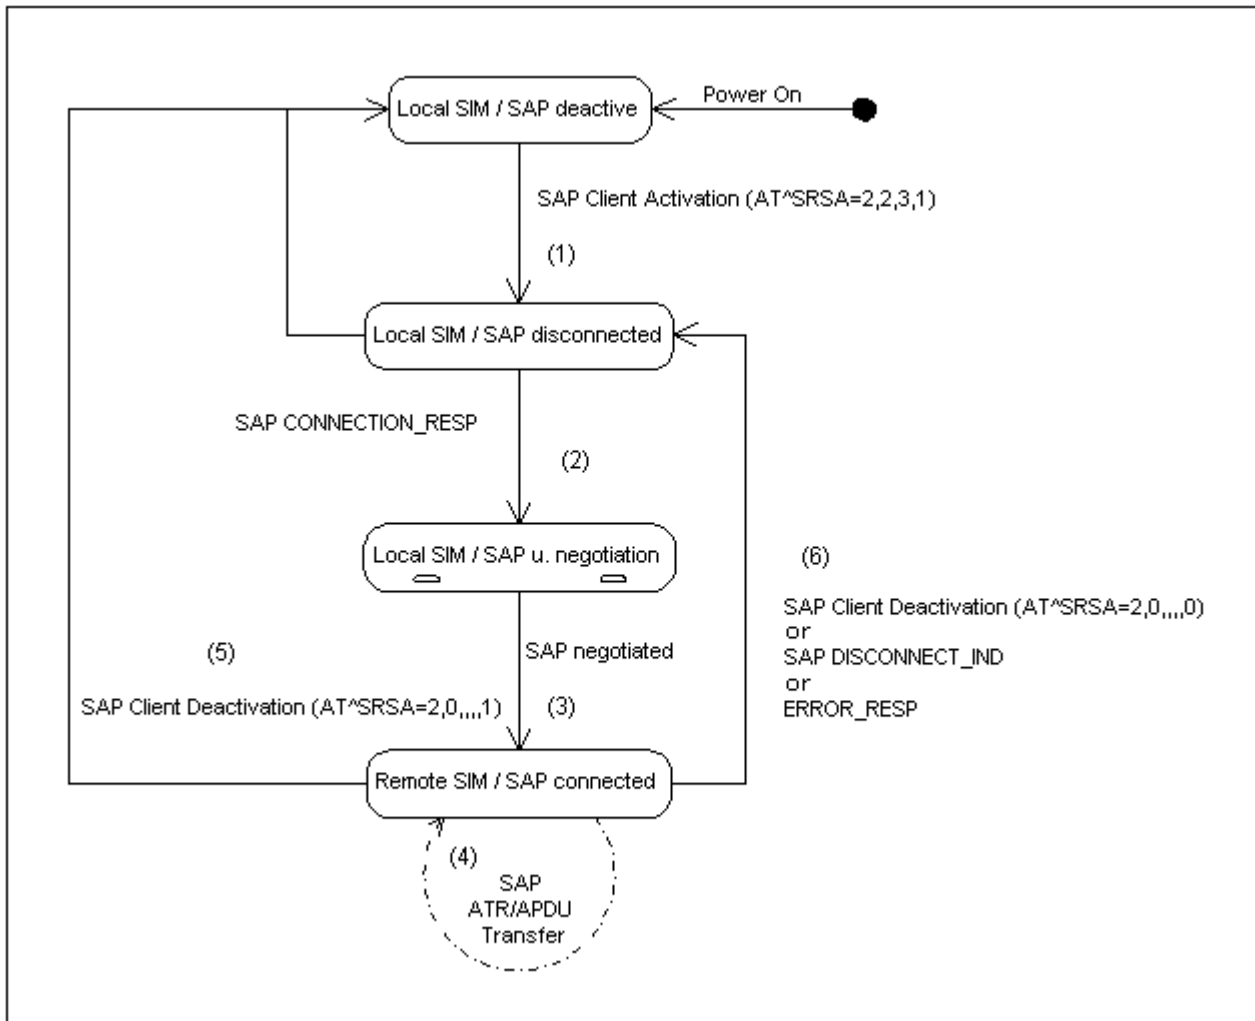

Figure 15.3: SIM usage states of SAP client
The SIM Access Client is connected via a serial link to the SIM Access Server. The client accesses and controls the SIM inside the Server via the serial link. Typical examples of a server are a simple SIM card holder or a portable phone in the car environment. A typical example of a client is a car phone, which uses a SIM card in the server for a connection to the cellular network. With the additional AT Commands it is possible to switch the TC65 to use an external SIM instead of the physically attached (local) SIM during runtime. After SAP server activation (see (1) in Figure 15.3, SIM usage states of SAP client) the ME waits for the SAP message CONNECTION_REQ. The server will use its local SIM until the parameter negotiation has been accomplished successfully.